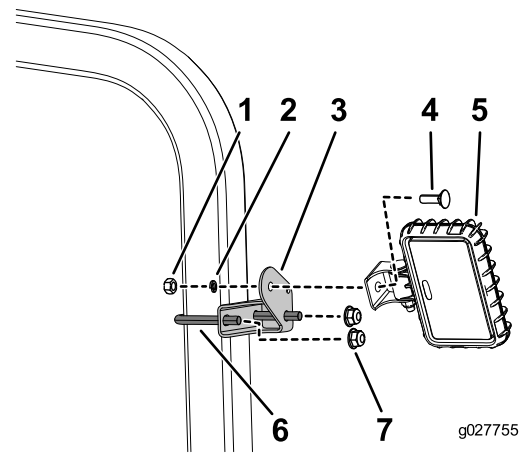

Figure 1
1. Install a bracket onto each side of the ROPS using a U-bolt and 2 nuts as shown in Figure 1.
2. Install the light assembly as shown in Figure 1.
- Secure the wiring harness near the light assemblies with the 2 (7.25 inch) cable ties into the available hole on the light bracket (Figure 1).